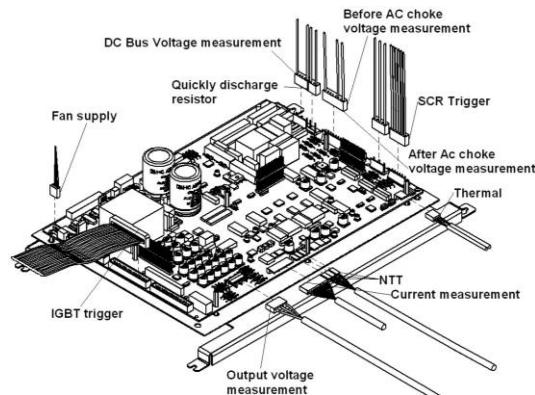

Figure 7.1.7. Disconnect all connected wires from power board
See the figure 7.1.7 while reading the following instructions:
- 7) Connect the cables to the corresponding connectors (see figure 7.1.7).
Before proceeding, it is necessary to remove the embellishers (see section 7.1.1), the tray where control and power boards are inserted (see figure 7.1.7), the gate drive board (see section 7.1.7), the connections board (see section 7.1.9).
Before removing the power connections board, you should remove the embellishers (see section 7.1.1), the tray where the control and power boards are inserted (see figure 7.1.7) and the gate drive board (see section 7.1.17).
In order to remove the single-phase choke, you should remove the embellishers (see section 7.1.1) and the tray for the boards (see figure 7.1.7) before.
It is necessary to remove the embellishers (see section 7.1.1), the tray for the boards (see figure 7.1.7) and separate the top of the chassis from the bottom (follow the steps described in section 7.1.9 and 7.1.10)
In order to remove de heatsink, first, you should remove the embellishers (see section 7.1.1), the tray for the boards (see figure 7.1.7), the gate drive board (see section 7.1.7), the DC bus (see section 7.1.8) and the power connections board (see section 7.1.9), and separate the top of the chassis from the bottom (follow the steps of sections 7.1.9 and 7.1.10).